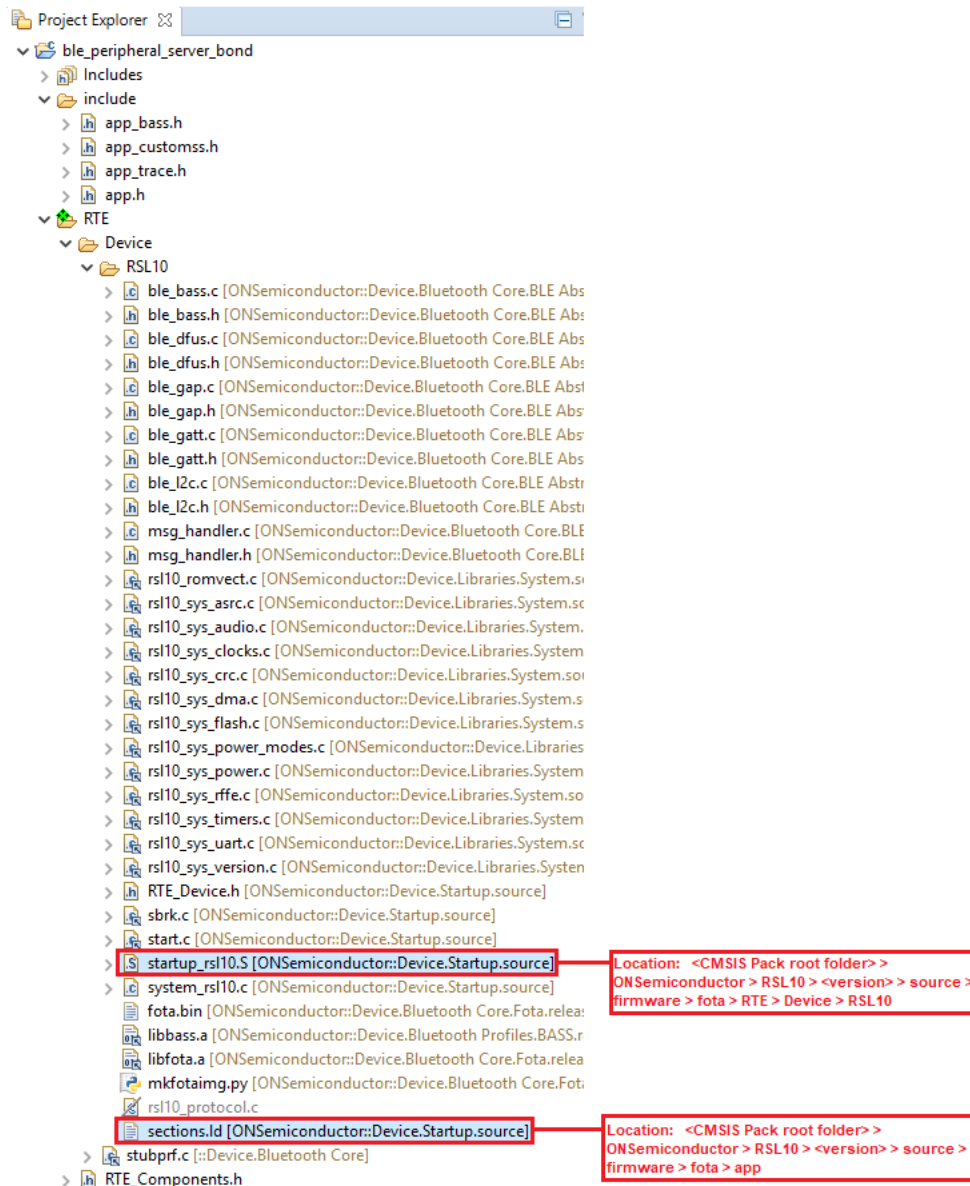

Figure 15. Replacing the sections.ld and startup_rsl10.S Files
6. Replace your *sections.ld* file with the one that contains the FOTA placement, and also replace your *startup_rsl10* file, as shown in Figure 15. The new *sections.ld* file and *startup_rsl10* file can be copied from *ble_peripheral_server_hrp_fota*, or directly from the CMSIS-Pack root folder as follows: